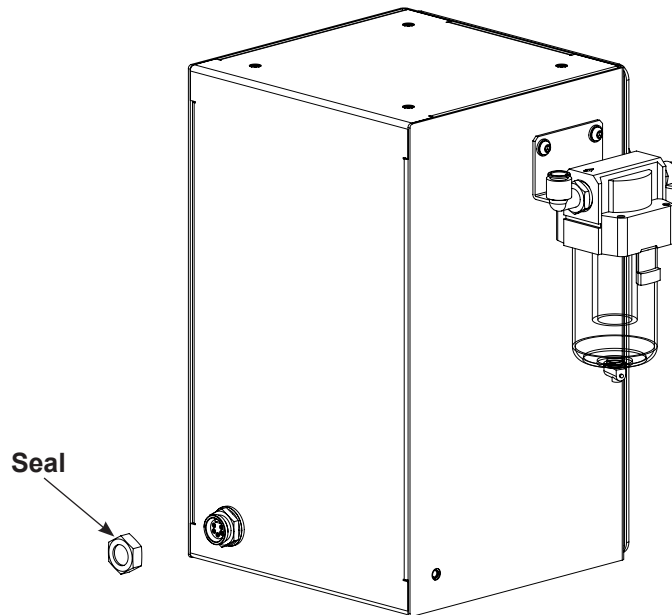

Figure 7-1 Receptacle Seal
**WARNING:** See Figure 7-1. The pump controller is shipped with a seal on the receptacle for the vibrator motor that is removed for use with the VBF mobile systems. This seal must be kept on the pump controller receptacle for the wall and rail systems to prevent electrical hazard.